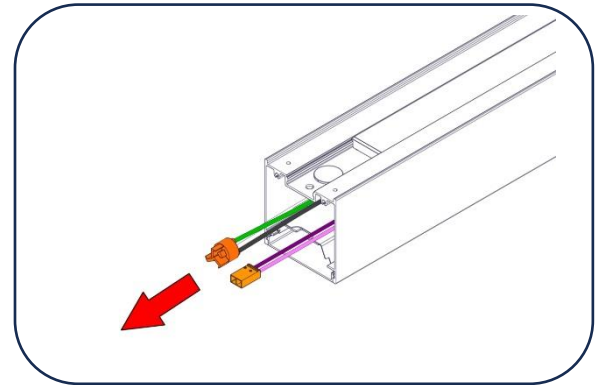

Figure 5
14. Carefully pull the available length of **Driver Harness** wires out. [Figure 5]